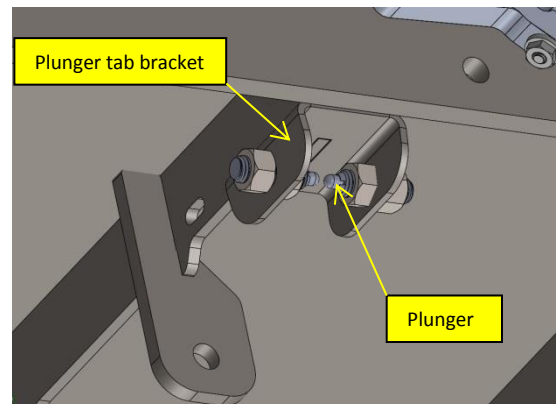

Figure 1
3. Install the spring plungers, with the plunger facing inward, into the holes on each side of the plunger tab bracket. Leave the plungers loose to aid in the installation of the centering tab. **Figure 1.**